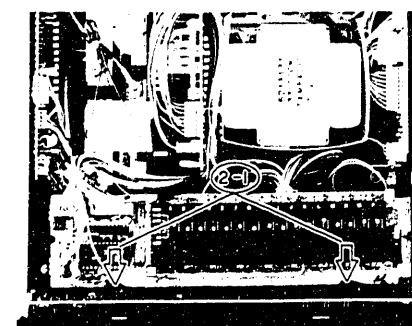

Fig. 27
2. Channel preset PC Board (Fig. 27)